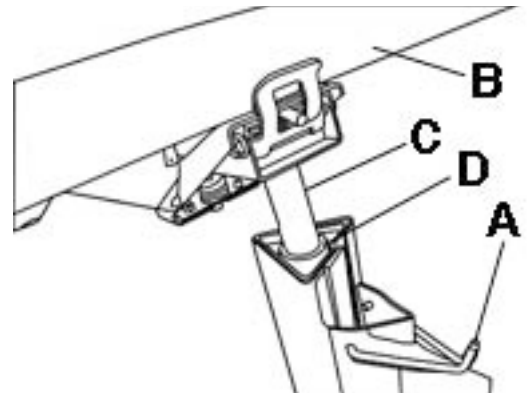

FIGURE 6
- 1) Before attempting to install the cradle to the top of the frame, pivot the retaining hook (A) Fig.6 downwards. This retaining hook is used to prevent the telescopic posts from moving during transport or storage.
- 2) Lift the cradle (B) Fig.6 and insert the cradle post (C) into the telescopic post opening (D). Make sure the cradle post slides all the way into the telescopic post opening.